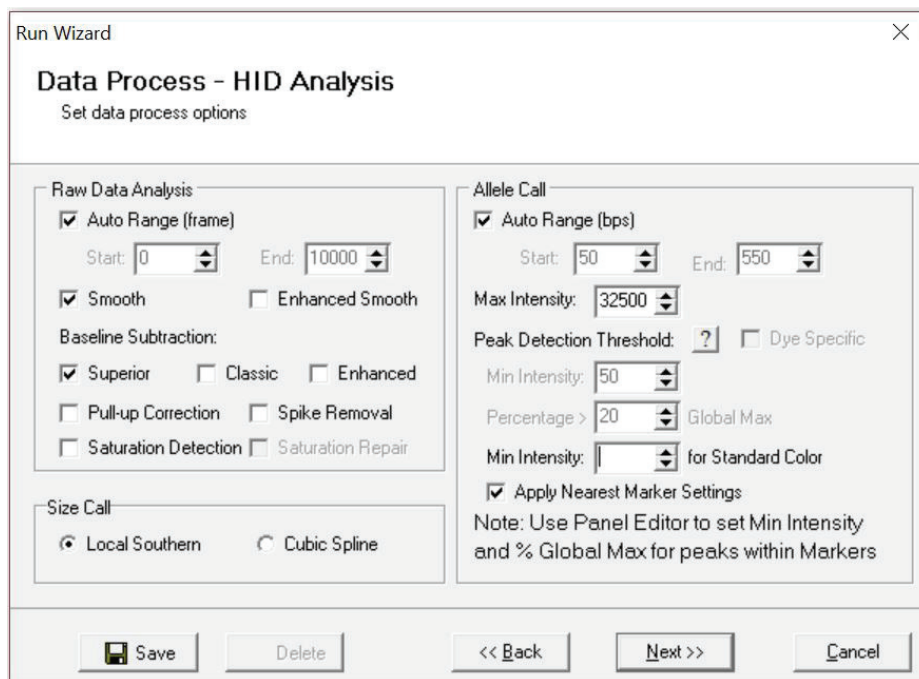

Figure 33. The 'Data Process' window for an analysis method.
9. The 'Data Process' window will appear (Figure 33). For the Raw Data Analysis, we recommend using Auto Range, Smooth, Superior Baseline Subtraction and Local Southern for the Size Call.